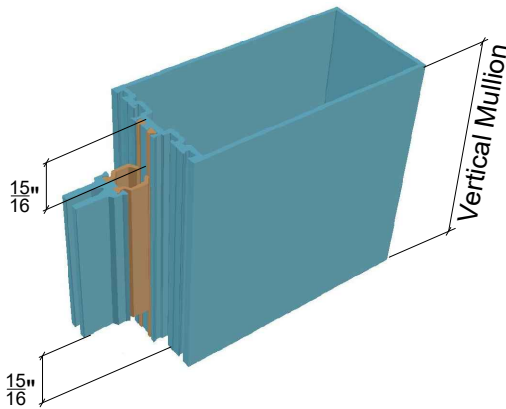
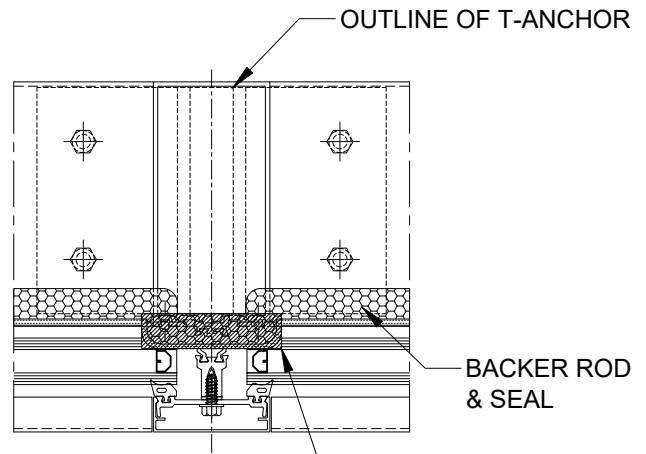

Fig. 1 (Notch struts & mullion extension $15\frac{1}{16}$ ")
Fig. 2 (Backer rod & seal continuity diagram - plan view)
- 1.3 All vertical mullions to have nose & struts notched as shown in **Fig. 1** at the top and bottom. This is to provide option for continues pocket filler, continuity of an airseal silicone membrane and/or shelf anchoring. For the F/T anchoring (subject to the project requirements), anodized aluminum plate 'End Cap' is to be used by the installer to insure continuity of backer rod and seal. (**Fig. 2**)